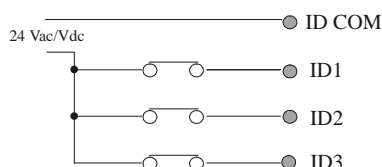

Fig. 3.3.2
- in position 2-3 (**ID COM - EXT**): 24Vac/dc power supply to be provided by the user (Fig. 3.3.2).